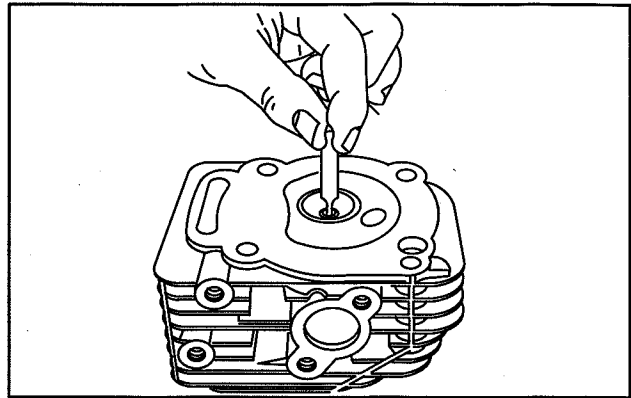

Fig. 11 – Check Valve Guide Bushing
2. Check valve guide bushings for wear using reject gauge, Tool #19382, Fig. 11.